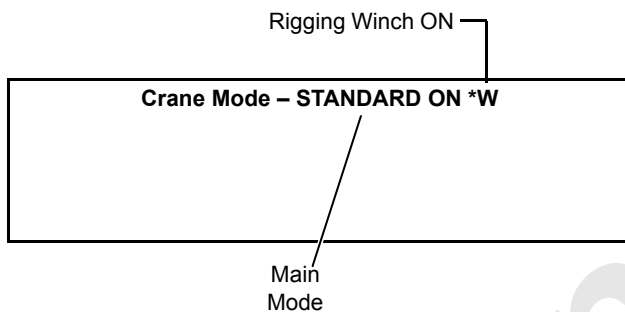

FIGURE 4-69
*W will appear next to main mode as shown in Figure 4-69. The boom hoist handle on left console will now operate the rigging winch.